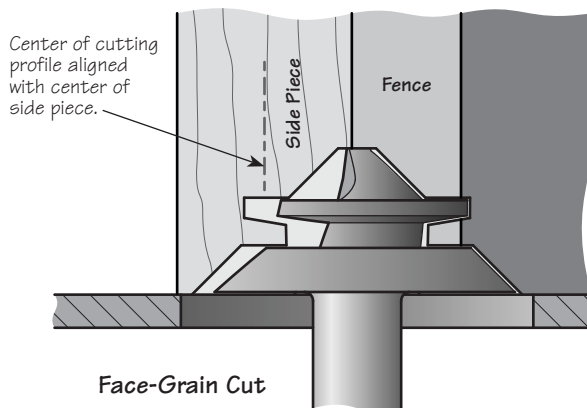

Figure 12: Setting the fence position.
4. Using the trial pieces, create an end-grain and face-grain cut representing the front/back and sides of the drawer, respectively. Note that each piece is routed with the fence in the same location, as shown in **Figures 12 and 13**.